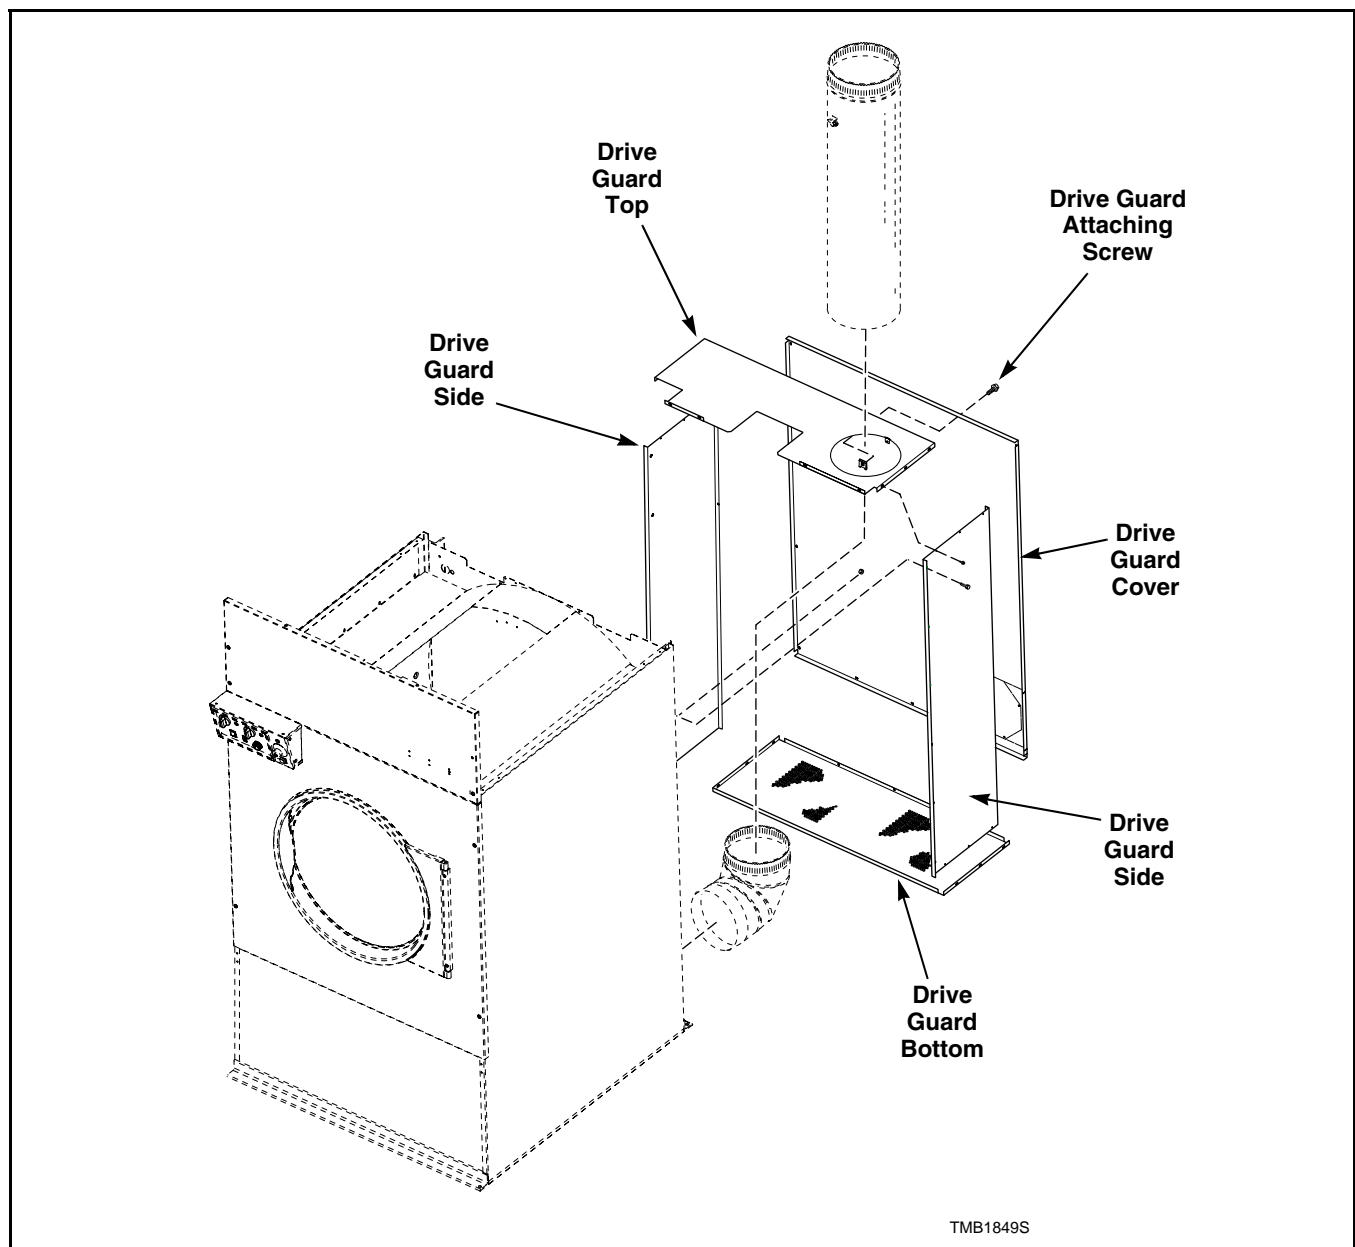

Figure 11
- a. Support drive guard cover and remove screws holding guard to rear of tumbler. Refer to *Figure 11*.
- a. Support drive guard cover and remove screws that hold guard to rear of tumbler. Refer to *Figure 11*.